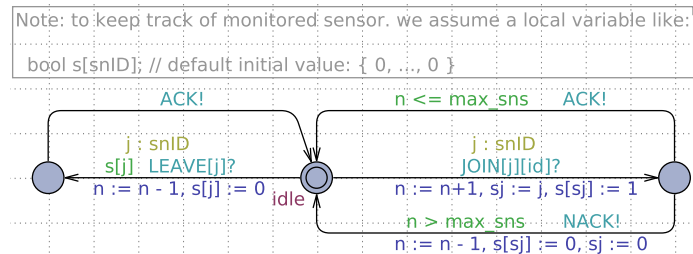

Figure 3: Sketch of design idea.
A proposed solution is sketched in Figure 3.
- (i) Extend the model from Task (iv) of the previous exercise such that the extended model implements the sketch2 given by Figure 3. (1)
2Here, ‘sketch’ is used in the sense that the design department has just quickly drawn Figure 3 and (for good reason) assumes that you, as an (at least half) CFA-expert, will know how it defines a well-formed UPPAAL model. That is, only changing the CFA of template ‘Master’ may not be sufficient: The declaration of  $\mathbf{s}$  needs to be introduced at the right place, and other smaller issues like this one may need to be resolved.